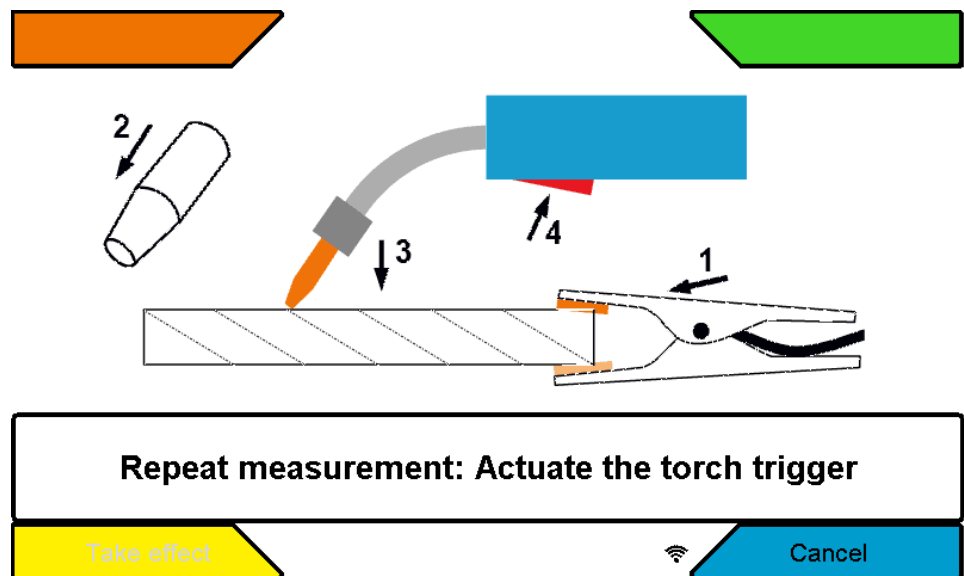

Figure 36: Setup / System / Welding circuit adjustment submenu
- ❑ The graphic for the welding circuit adjustment is then displayed on the control panel (Figure 36)